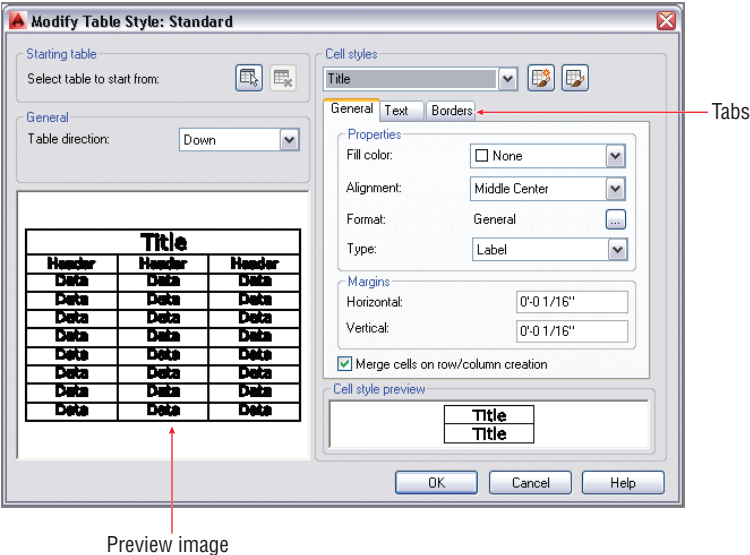

FIGURE 15.16 Modifying the margins around the Title cell style
3. In the Modify Table Style: Standard dialog box that appears, open the Cell Styles drop-down menu and select Title. Select the General tab if it is not already selected. Double-click in the Horizontal text box in the Margins area. Type **1/16"** (or **0.20 cm**), press Tab, and type **1/16"** (or **0.20 cm**) to specify an equal vertical margin (see Figure 15.16).